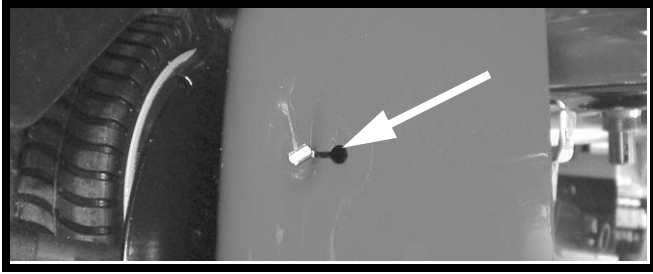

FIGURE 4
12. Unhook the speed control cable's barrel end from the rear of the deck. See Figure 4.